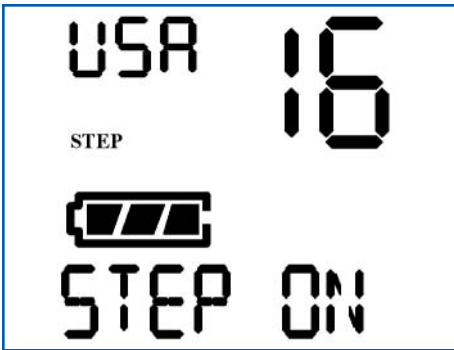

Fig. 16a: Step On Display
- When Step Mode is selected, the Radio Status Display will show **STEP ON** for three seconds. (Fig. 16a)